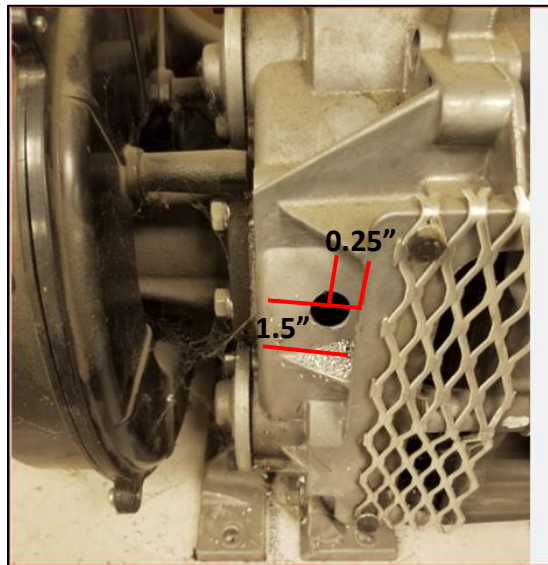

Figure 2: Air Compressor Grease Port Drilling Location
6. Measure 1.5 inches up from the reinforcing rib on the compressor housing and 0.25 inches (to the left) from the edge of the ventilation opening flange. Mark the drilling location. Refer to Figure 2.